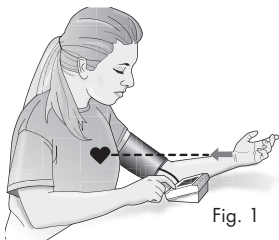

Fig. 1
2. Rest your elbow on a solid surface with your palm facing upward. Elevate your arm so that the cuff is at the same level as your heart, Fig 1. Relax your left hand.